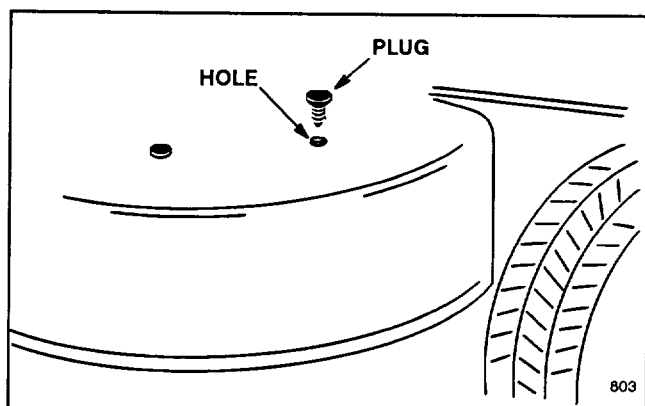

Figure 4
2. Fill the holes in the deck for that kicker with the black plastic plugs provided in the kit (Fig. 4).